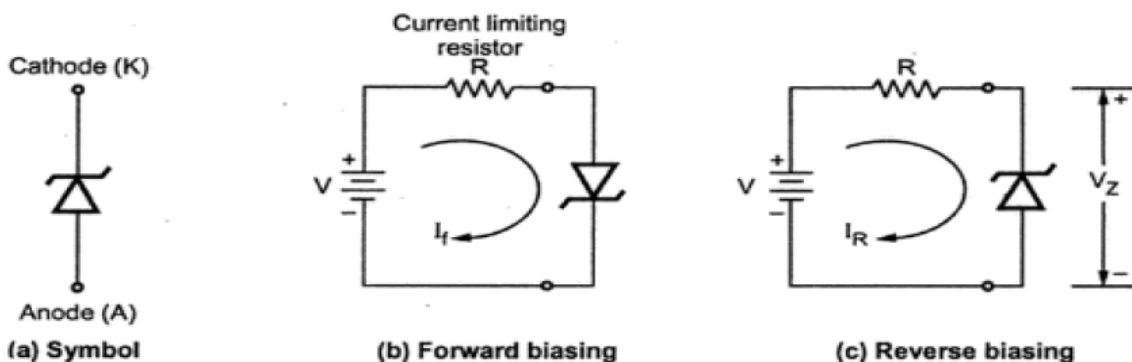

Fig. 5.10 Zener diode
- The Fig. 5.10 (a) shows the symbol of zener diode.
- The d.c voltage can be applied to the zener diode so as to make it forward biased or reverse biased. This is shown in the Fig. 5.10 (b) and (c).